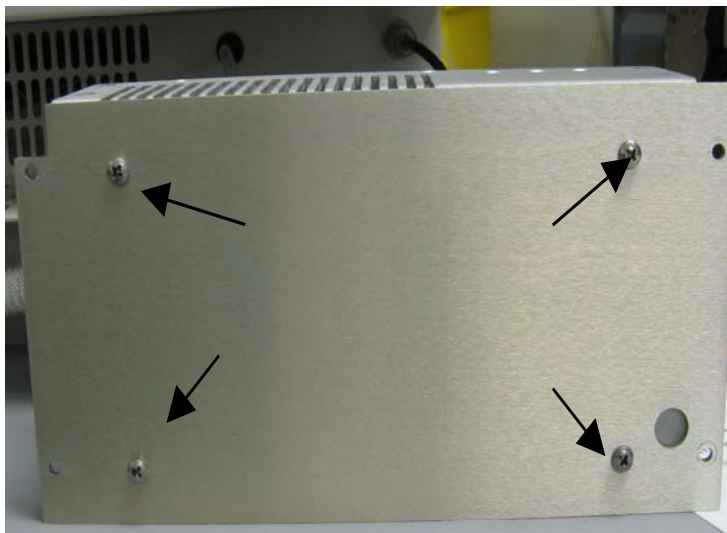

Figure 6
- 7) Using a #2 Phillips screwdriver remove the (4) screws that hold the bracket to the Power Supply. Fig.6